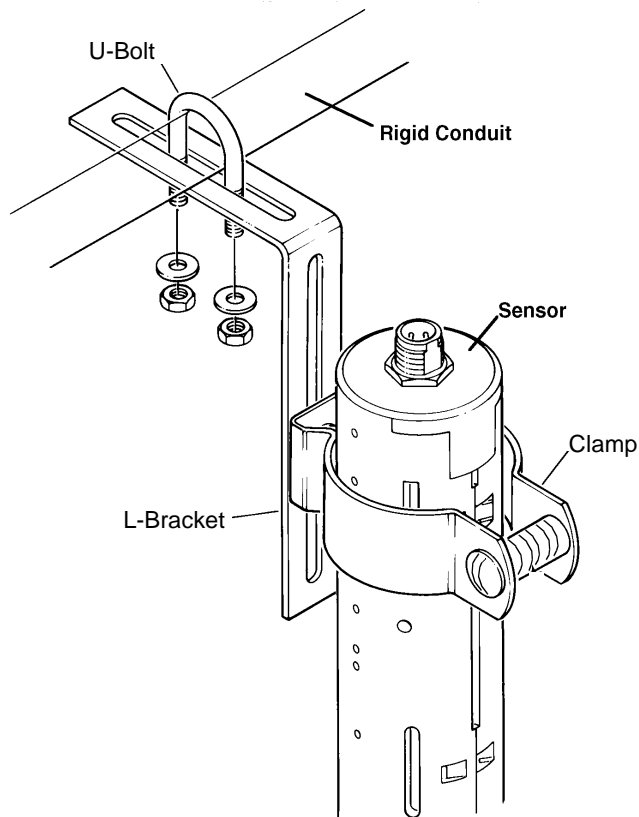

Figure 5. Mounting the Sensor to the Rigid Conduit.
2. Attach the clamp to the L-bracket with the 1/4-20 X 3/4-inch bolt (Figure 5).